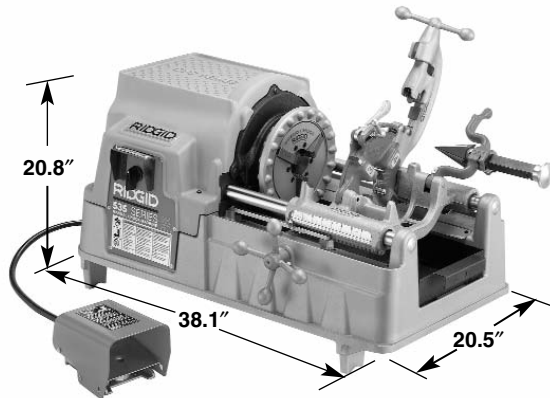

Figure 2 – No. 535 Machine Dimensions
1. If a stand is not used, the machine should be mounted to a stable bench. To mount the unit on a bench, use four (4)  $\frac{5}{16}$ " bolts in holes provided at each corner of machine base. Base dimensions are shown in Figure 2.